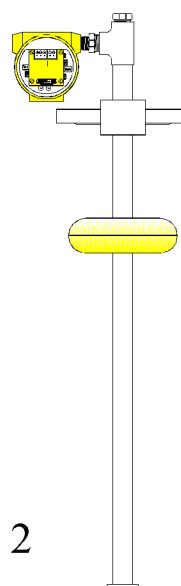

FIGURE 2
2. The Sensing Element tracking a donut shaped Magnetic Float, when the mechanism is inserted inside a vessel environment. Figure 2 (CLT-I25)